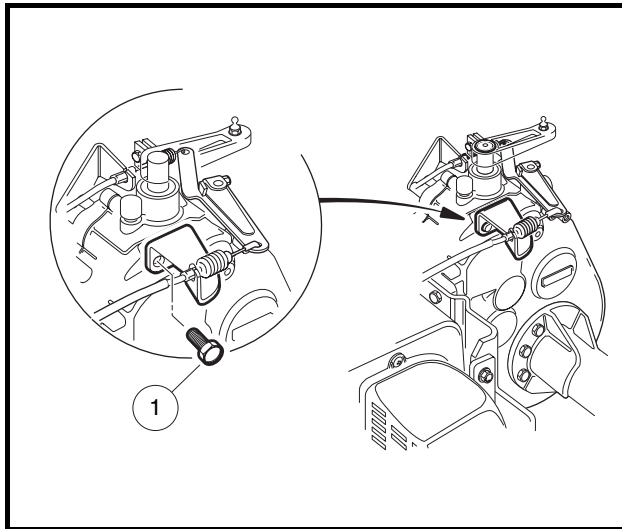

Figure 19-32 Governor Cable Bracket
19. Remove screws (1) securing the governor cable bracket to transaxle (**Figure 19-32, Page 19-13**).
7. Install the governor cable bracket on transaxle case. Tighten the mounting screws to 134 in-lb (15.1 N·m) (**Figure 19-32, Page 19-13**).